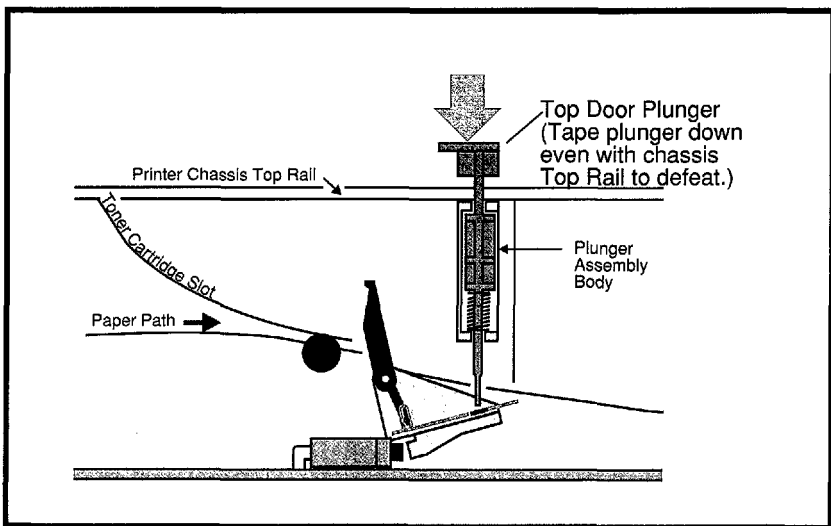

Figure 7-5 Defeating the Top Door Plunger (LaserJet 4P/4MP)
4. On the top of the printer, use a piece of tape to hold down the Top Door Plunger (shown in Figure 7-5).